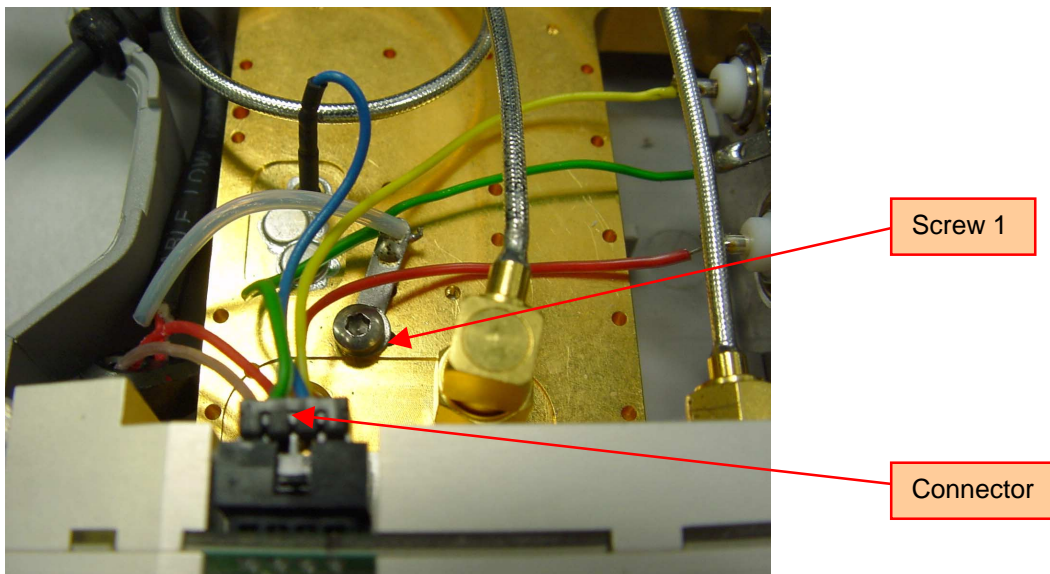

Fig. 3-4 Replacing the wire tree
- Loosen screw 1 (see Fig 3-4)
- Remove the connector from TG Switch unit (see Fig 3-4)